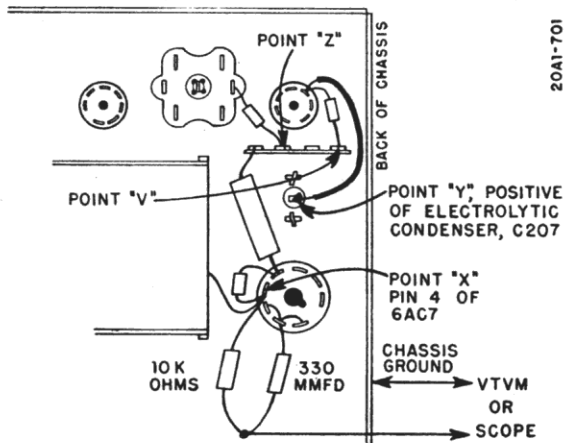

Figure 29. Alignment Connection Points.
- Connect RC filter of 10,000 ohm resistor and 330 mmfd. condenser in series from point "X" to chassis. See figure 29. Leave connected for all steps in this alignment.
2. Connect oscilloscope between point "X" and chassis ground through a decoupling filter (see figure 29). Keep leads away from receiver.
very minimum. Marker pips should be kept just barely visible. Setting sweep generator output for VTVM reading from .5 to 1 volt DC (measured from decoupling network at point "X" and chassis, figure 29) will avoid distortion of response curve. See page 17 for "Overall RF and Video IF Response Curve Check."
2. Connect oscilloscope between point "Z" and chassis ground (see figure 29). Keep leads away from receiver.
- See Figure 29. Connect VTVM high side to "Z"; common to "V" in ratio detector V203 circuit. Use VTVM 3 volt zero center scale if available.
- Connect oscilloscope between point "X" and chassis ground through a decoupling filter (see figure 29). Keep leads away from receiver.
outputs at a very minimum. Marker pips should be kept just barely visible. Setting sweep generator output for VTVM reading from .5 to 1 volt DC (measured from decoupling network at point "X" and chassis, figure 29) will avoid distortion of response curve.